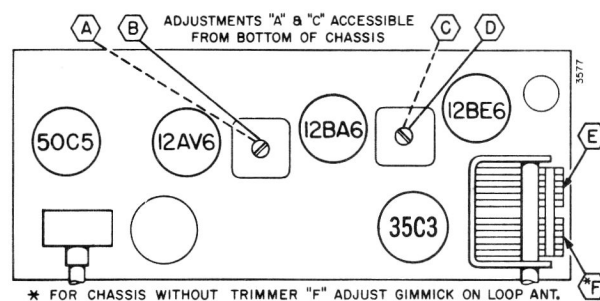

Figure 4. Top View of Chassis Showing Tube and Alignment Points Locations.
*Adjustments "A" and "C" made from underside of chassis; see figure 4.